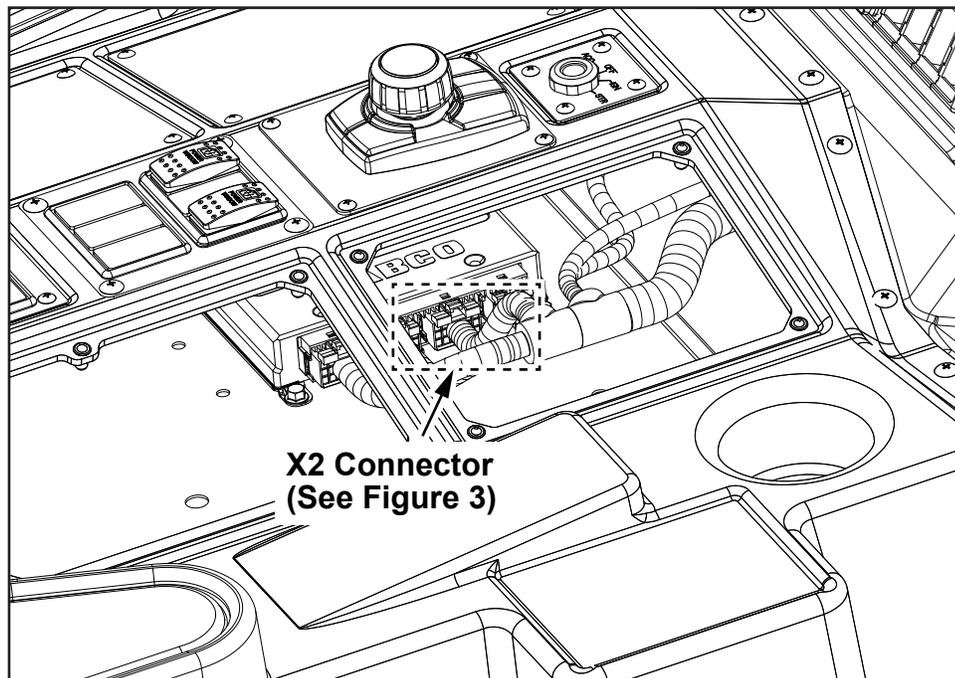

Figure 2
5. Locate and remove the X2 connector from the ABS controller (see Figures 2 and 3).